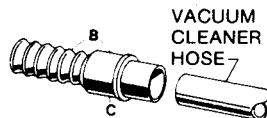
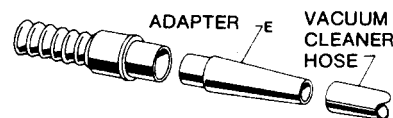

FIG. 12
FIG. 13
4. Insert your vacuum cleaner hose into the end-piece "C" (Figure 12) of the hose assembly. Included adapter "E" (Figure 13) may be needed if your vacuum cleaner hose is a little larger or smaller than average.